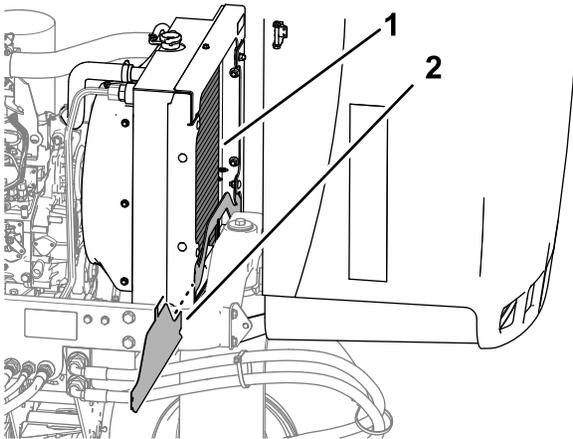

Figure 74
4. Remove the lower radiator shield (Figure 74).
5. Clean both sides of the radiator area thoroughly with water or compressed air (Figure 74).